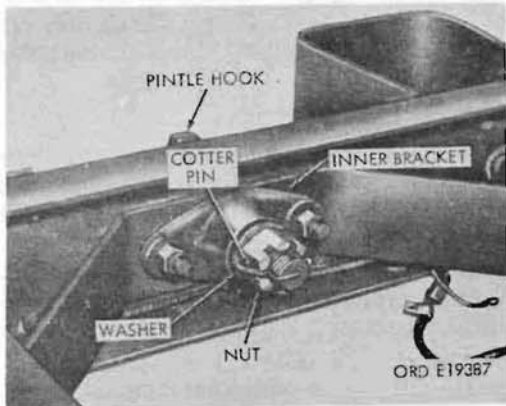

Figure 248. Pintle hook - rear view
c. **Pintle Bracket Removal.** Remove the two screws and safety nuts securing the bracket to the rear crossmember and remove the bracket (fig. 248).